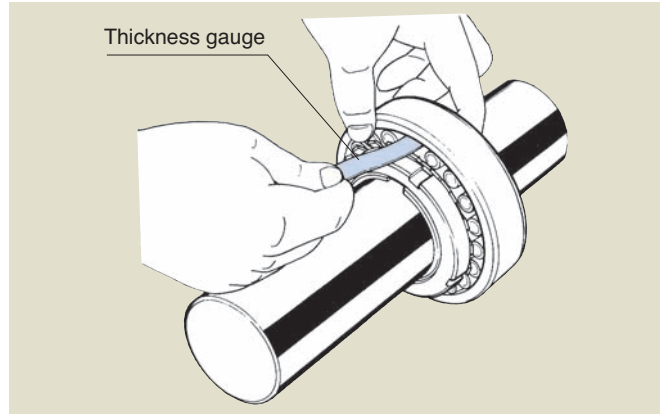

Fig. 7
(3) To check that the specified level of fastening has been achieved, measure how much the bearing radial internal clearance has changed before and after fastening (see **Fig. 7**), or measure the relative amount of axial movement between the adapter and bearing.